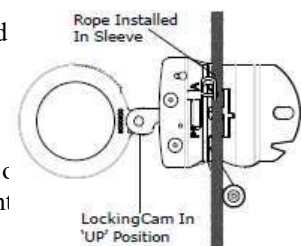

Figure 6
- Pull the lifeline sleeve apart until the unit is fully opened. (See Figure 6)